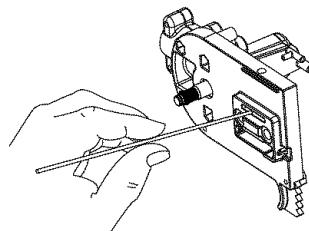

Fig. 14
4. On the bar pad use a soft wire small enough to insert into the oil discharge hole, scrape any saw dust or debris away. (Fig. 14)